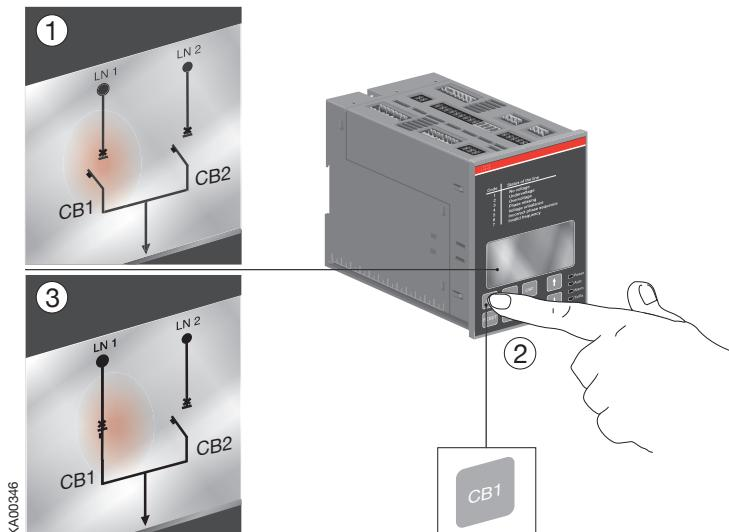

Figure 4.2 Selecting the operating line, the circuit breaker status and the chosen line indication in display terminal in ATS022
- b. When pushing the CB1 key (see the Figure 4.2/(2)), the circuit breaker CB1 will be in the ON position (the status and the line indication, see the Figure 4.2/(3) and the circuit breaker CB2 will be in the OFF position. If the circuit breaker CB1 is already in the ON position, pushing the CB1 key opens the circuit breaker.